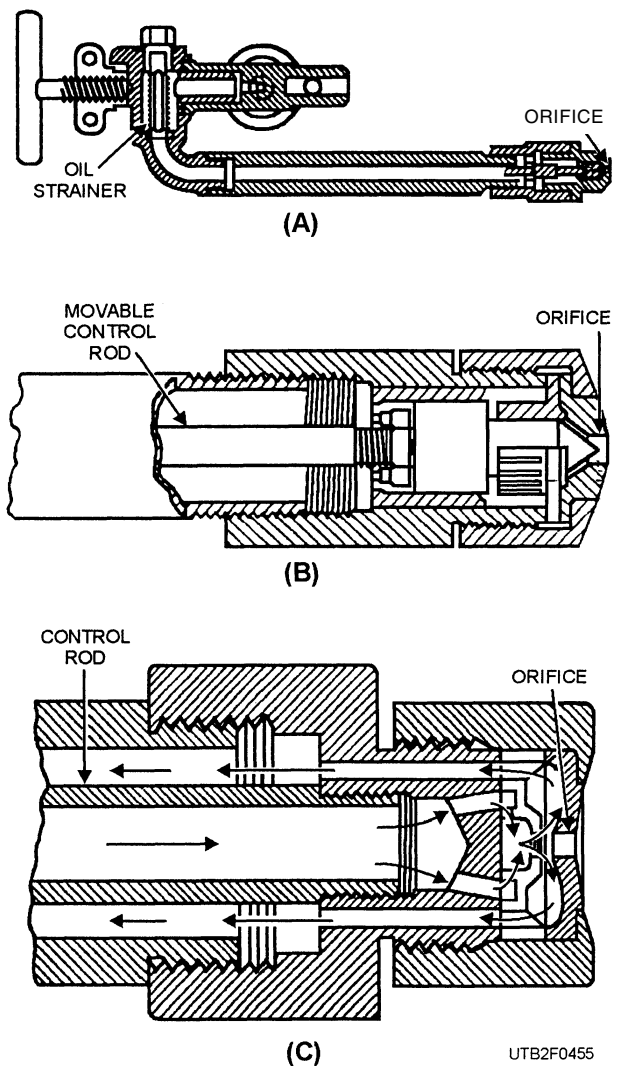

Figure 4-55.—Mechanical-atomizing burner.
Figure 4-55 shows a mechanical-atomizing burner. View (A) is a cross section of the burner; view (B) shows the central movable control rod that varies, through a regulating pin, the area of tangential slots in the sprayer plate and the volume of oil passing through the orifice; view (C) shows a design with a wide-capacity range, obtained by supplying oil to the burner tip at a constant rate in excess of demand. The amount of oil burned varies with the load; the excess is returned.